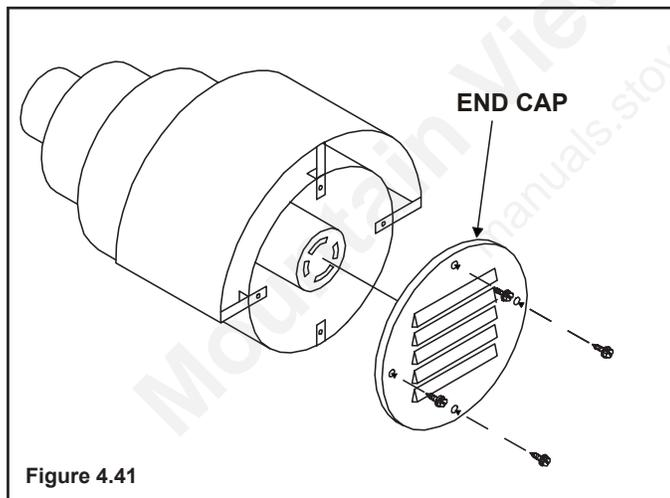

Figure 4.41
- A. Turn power to off. Remove end cap by removing the four (4) sheet metal screws. See Figure 4.41.